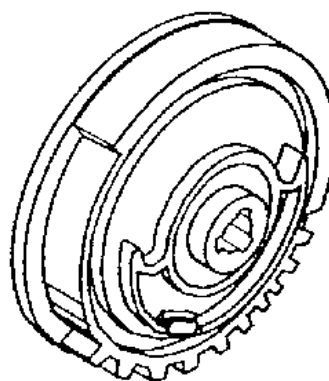
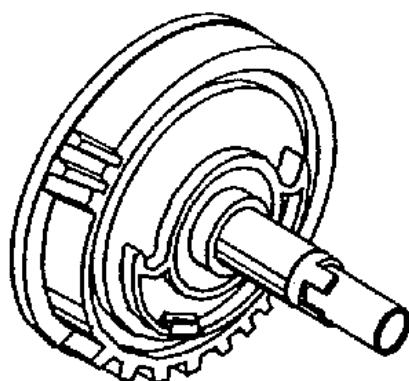
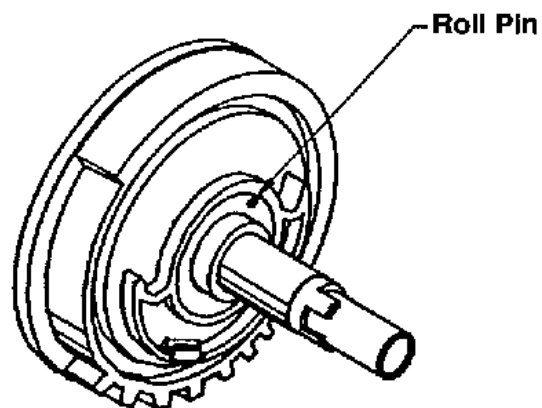

FIGURE 2
FIGURE 3
FIGURE 4
Please Note: If replacing an old style motor with a new style motor you must replace the drive cam with a new style drive cam. To determine which cam you have, compare your cam to the drawings in (Fig. 1, 2, 3, or 4). The new style cam has two (2) extra teeth. The cams shown in Fig. 1 and Fig. 3 are the new style cams. Fig. 1 and Fig. 2 have a slotted screw and Fig. 3 and Fig. 4 have a hex screw. The cams in Fig. 2 and 4 are the old style, without the two (2) extra teeth.